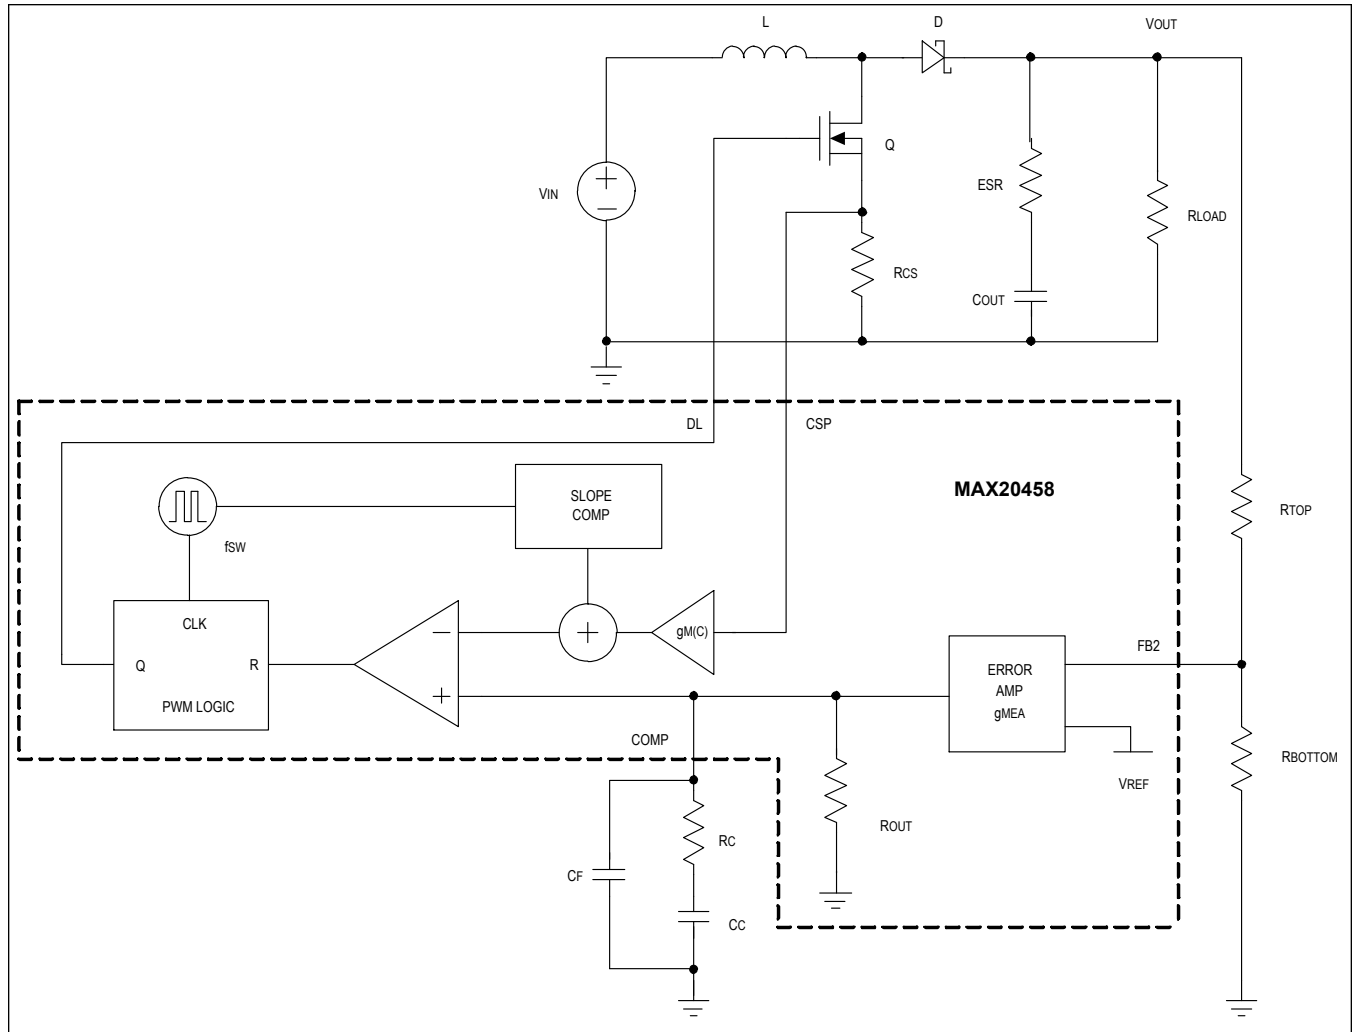

Figure 1. Boost Control Loop
The boost regulation loop consists of power modulator, feedback resistor network, and error amplifier, as shown in Figure 1. The power modulator includes current sense circuitry (R_{CS}), the external MOSFET (Q) and rectifier diode (D), the inductor (L), output capacitor (C_{OUT} and its ESR), and the load (R_{LOAD}). Its transfer function is expressed below: